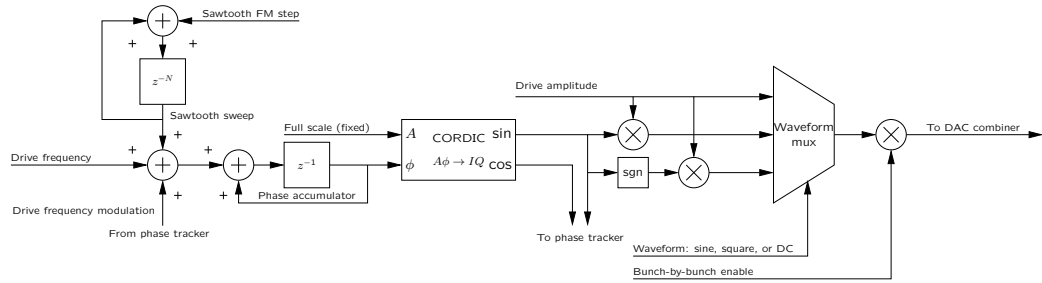

Figure 15: Drive source block diagram
Three independent drive sources are available in iGp12-470F FPGA, 0, 1, and 2. Each source is based on an numerically controlled oscillator (NCO) with sawtooth frequency modulation (FM) capability and bunch-by-bunch enable. Four output waveform types are supported: sinusoidal, square, triangular, and direct current (DC). Block diagram of a drive source is shown in Figure 15.